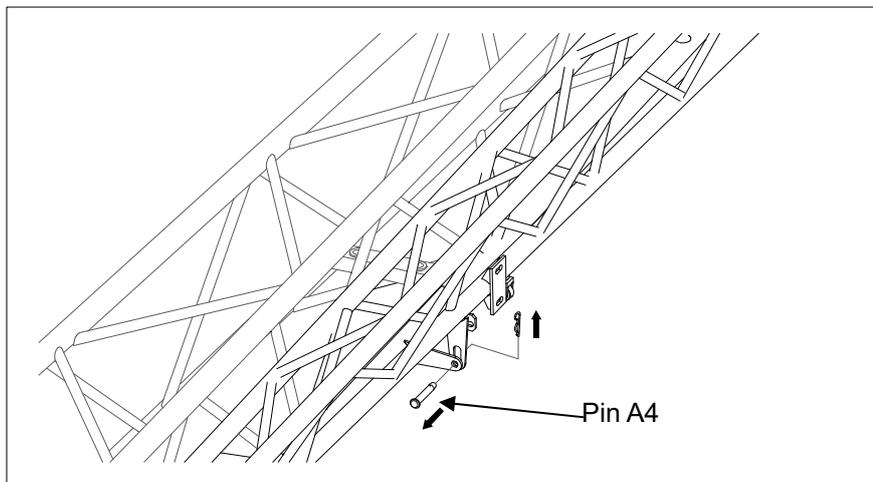

Figure 5-10 Pin A4 removal
- l) Remove the pin A4 and the retaining clips connecting jib section I to section II. Refer to Figure 5-10.